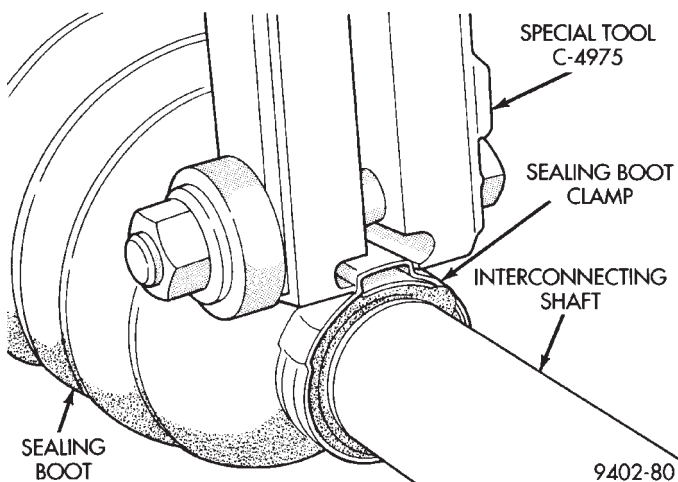
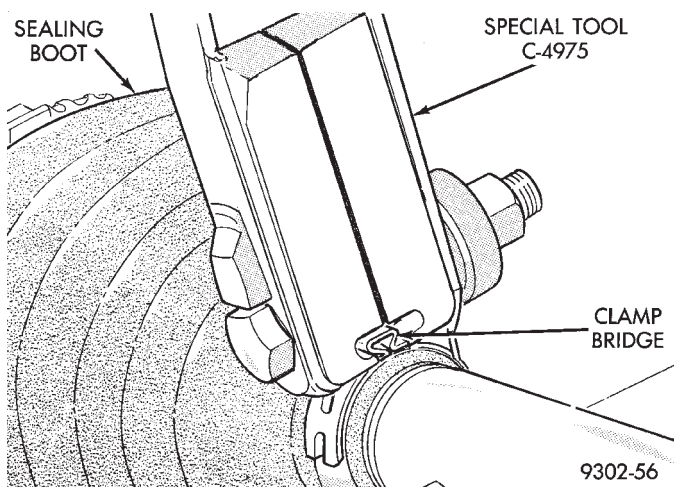

Fig. 37 Crimping Tool Installed On Sealing Boot Clamp
Fig. 38 Sealing Boot Retaining Clamp Installed
(5) Clamp sealing boot on interconnecting shaft using Crimper, Special Tool C-4975 and the following procedure. Place crimping tool C- 4975 over bridge of clamp (Fig. 37). Tighten nut on crimping tool C- 4975 until jaws on tool are closed completely together, face to face (Fig. 38).